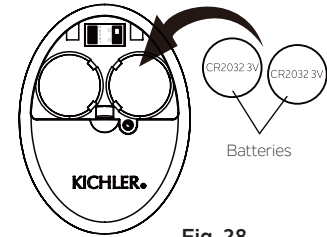

Fig. 28
Step 3. To make fan operational, install two 3V CR2032 batteries (included). (Fig. 28)